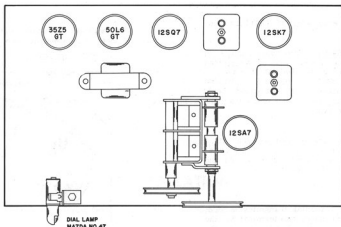

FIG. 4 TOP VIEW - LOCATION OF TUBES AND DIAL LAMP
**TUBE REPLACEMENT** - The tube types and their relative location in the receiver are shown in Fig. 4. When installing a replacement tube, insert the center guide pin into the center hole of the tube socket; rotate the tube until the key on the guide pin drops into the notch in the base of the tube rests firmly on the socket. Handle all tubes with care as they are fragile and will not withstand mechanical abuse.
**DIAL LAMP REPLACEMENT** - Refer to Fig. 4 for the location of the dial lamp used in the receiver. To replace a defective lamp, the cabinet back and 35Z5GT tube must be removed from the receiver. Reach in through the rear of the cabinet and unclip the dial lamp socket from the mounting clip. The socket may then be brought out into the open for dial lamp replacement. Make replacement with a 6-8 volt Mazda #47 (brown bead) pilot lamp or equivalent.
**RESTRINGING DIAL CORD** - The dial drive system of the 5R10A consists of three separate string drives: (1) main tuning gang drive (2) main tuning dial pointer drive and (3) band spread gang and dial pointer drive. All restringing should be done with the main tuning and band spread gangs fully meshed.